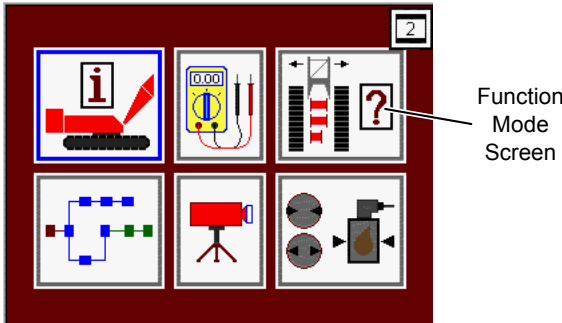

FIGURE 3-5
1. Enter the function mode screen in the main display (Figure 3-5).